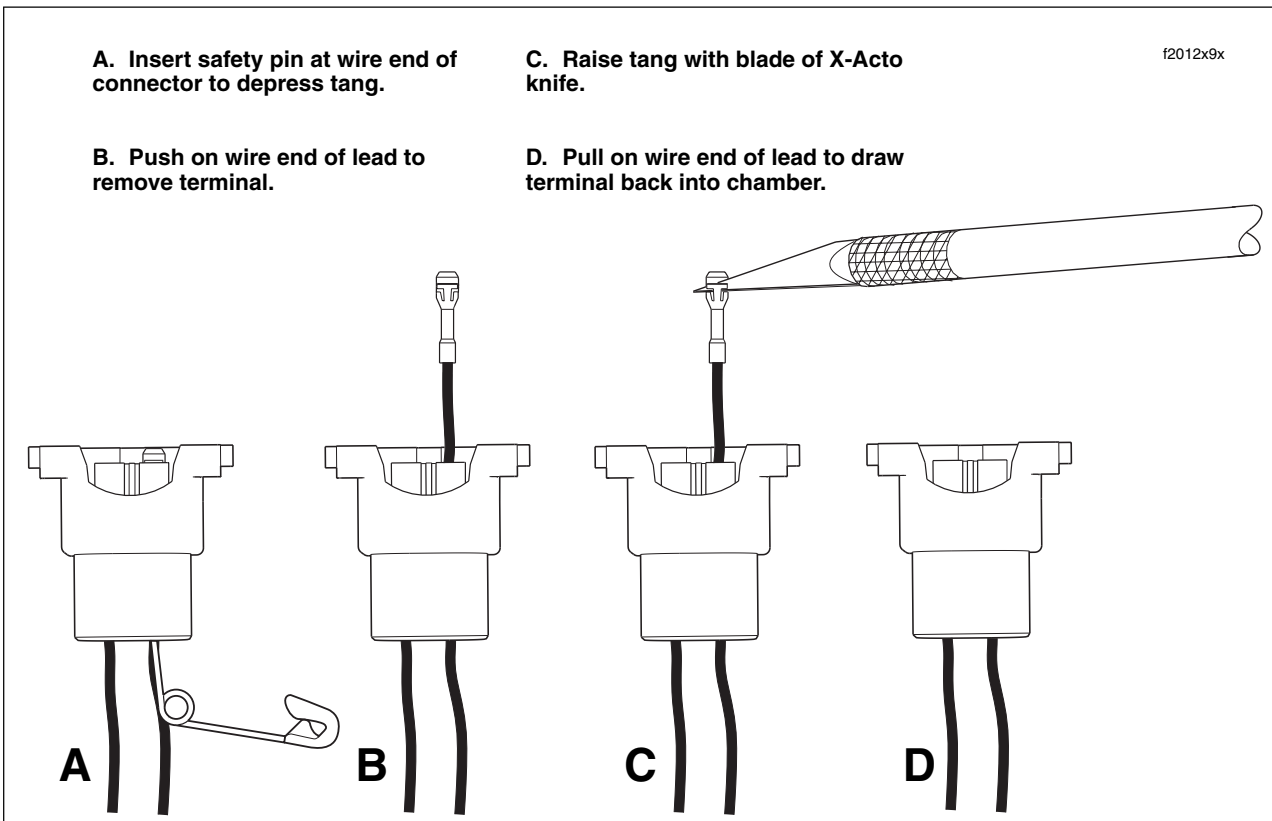

Figure 8-36. Extract/Install Socket Terminal at Mating End of Connector
4. Push safety pin completely into chamber while watching terminal on mating end of connector. When terminal is observed moving forward slightly, then tang is depressed. See A in Figure 8-36. Remove safety pin.
5. Push on wire end of the lead to extract the terminal from the mating end of the connector. See B in Figure 8-36.
2. Gently pull on the lead at the wire end of the connector to draw the terminal back into the chamber. Be sure that the tang faces opposite the wireform as it enters the chamber. A “click” is heard when the terminal is properly seated. See D in Figure 8-36.
1. Using a thin flat blade, like that on an X-Acto knife, carefully bend the tang outward away from the terminal body. See C in Figure 8-36.